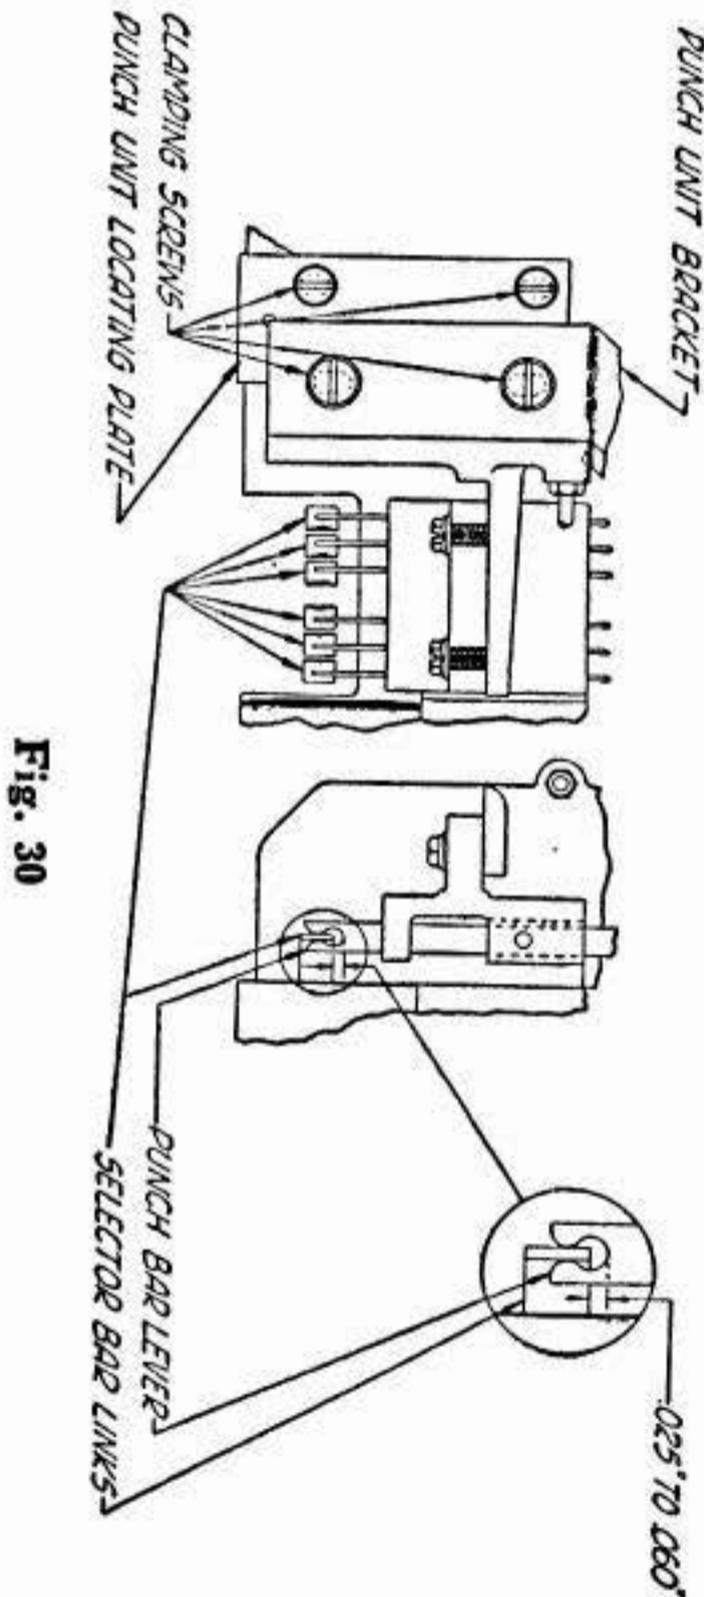

Fig. 30
(a) There should be a clearance of Min .025", Max .060", as indicated in Fig. 30, between the upper edges of the front and rear selector links and the tops of the slots in their respective punchbar levers; also the punch-hammer operating-lever roller should ride fully on its cam.
(1) To adjust, loosen the locating plate mounting screws and position the punch-unit bracket by means of its elongated mounting holes. Then position the punch-unit locating plate securely against the punch-unit bracket and tighten the clamping screws. **Fig. 30**